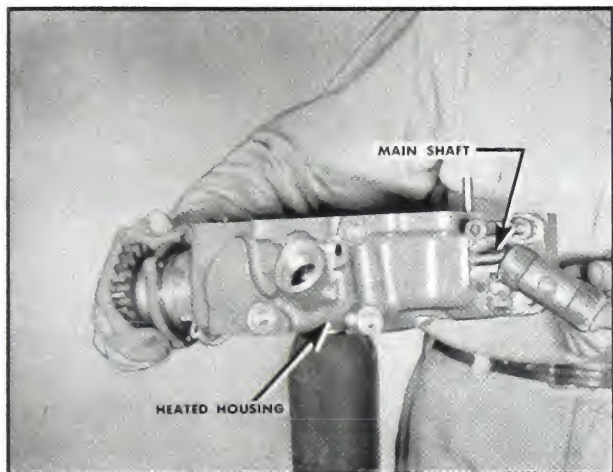

Fig. 5-201. Driving out main shaft—hydraulic-governed pump
6. Press or drive out the main shaft assembly. Fig. 5-201.